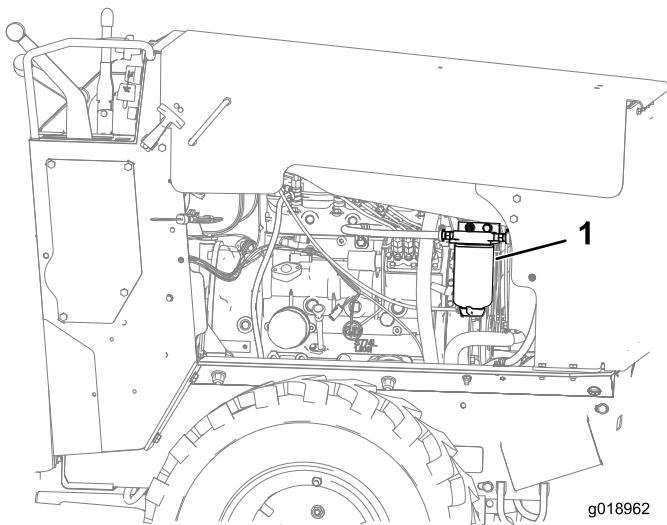

Figure 32
1. Locate the fuel filter on the right side of the engine (Figure 32) and place a clean container under it.